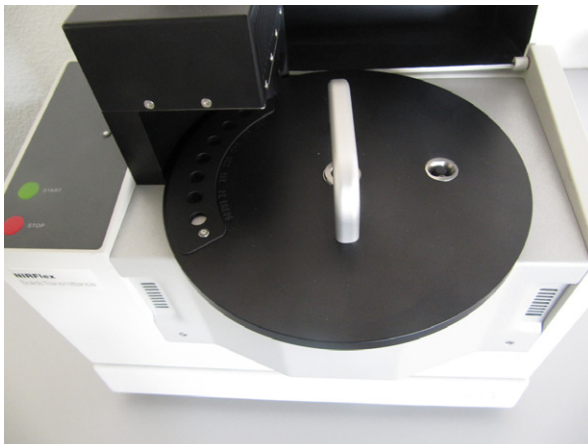

Fig. 6.9: Standard plate on NIRFlex Solids Transmittance
- Place the standard plate on the NIRFlex Solids Transmittance measuring cell, see Fig. 6.9.